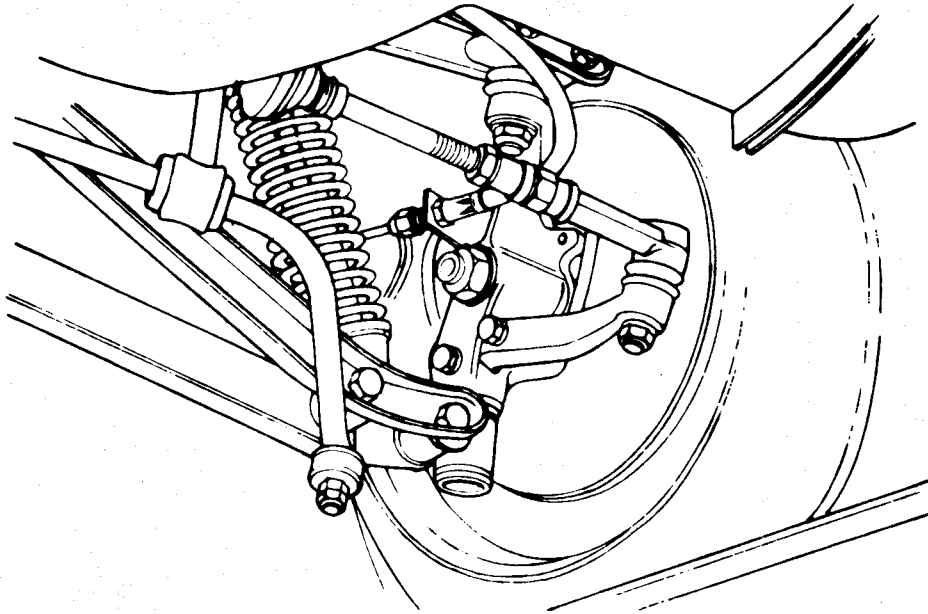

Fig. 16 - Steering Arm Attachments.
2. Extract the lower two bolts securing the brake disc dust cover, the brake caliper mounting plate and the steering arm to the vertical link (see Fig.16)